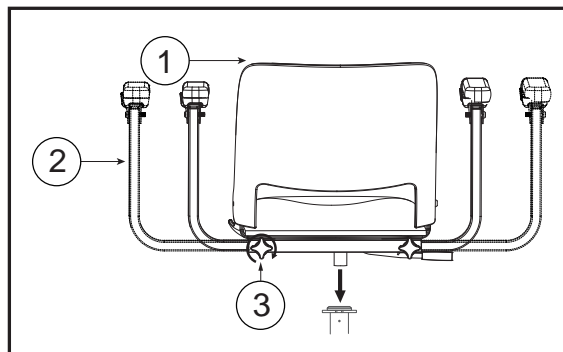

Figure 12
2. Moving the armrests to the desired position and re-tightening the armrest adjustable knobs to adjust the width of the armrest (see figure 12).